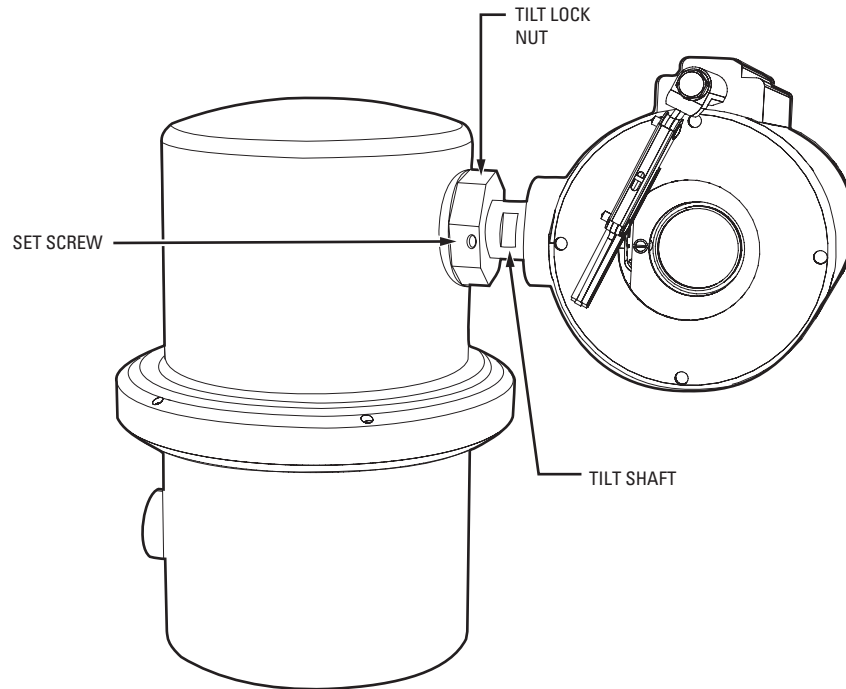

Figure 11. Set the Tilt Position
1. Place a 41 mm open end or crescent wrench on the tilt locking nut and a 21 mm open end wrench on the tilt shaft (refer to Figure 11).